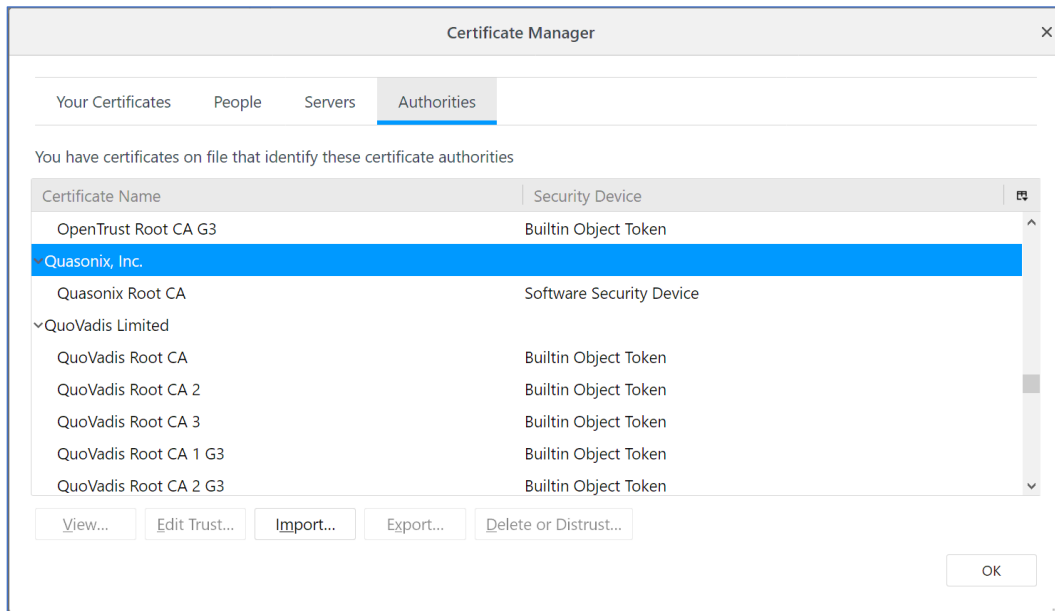

Figure 336: Firefox Certificate Manager with Quasonix Root CA Added
10. Scroll through the Certificate Names in the Authorities tab of the Certificate Manager to ensure "Quasonix, Inc." is in the list, as shown in Figure 336.